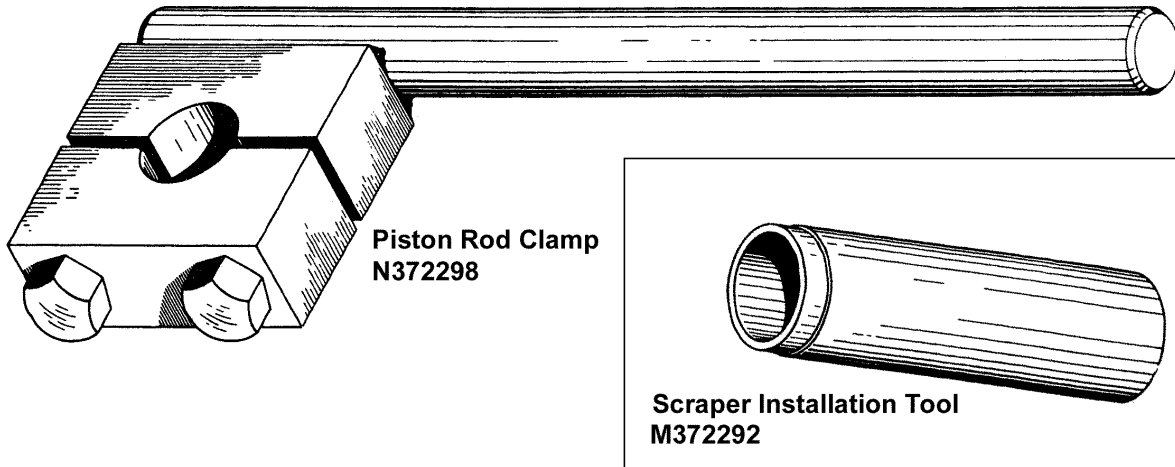

Figure 5-2 DA-10 Maintenance Tools
- A. Figure 5-2 illustrates special tools used for DA-10 maintenance. To clean and service the switch cylinder, proceed as follows: